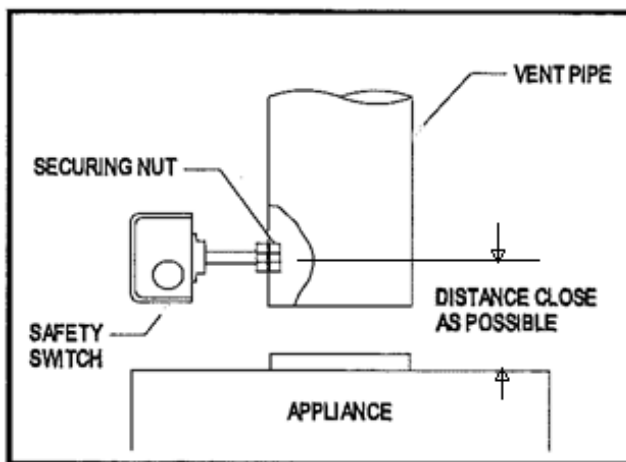

Figure 1 - Illustration from Field Controls
- 4) Tighten the other securing nut onto the pipe as far as possible (Figure 1).
- 6) Install the securing nut on the safety switch tube, which protrudes into the flue vent pipe. Tighten the nut securely (Figure 1).